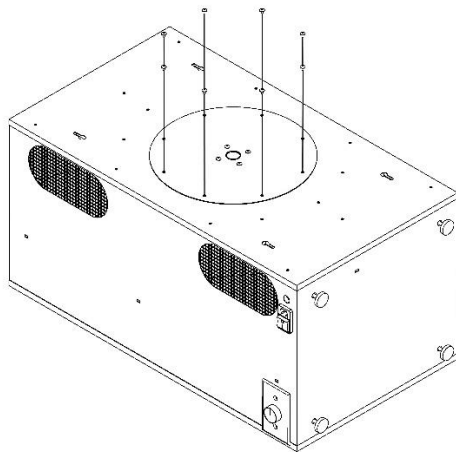

Figure 18
10.) Place the unit on its face as shown in Figure 18. Remove (8) M4 screws holding the backplate on with an Allen wrench.
- 16.) Position backplate over unit as shown in Figure 18. Reattach backplate to unit housing with (8) M4 screws using an Allen wrench.